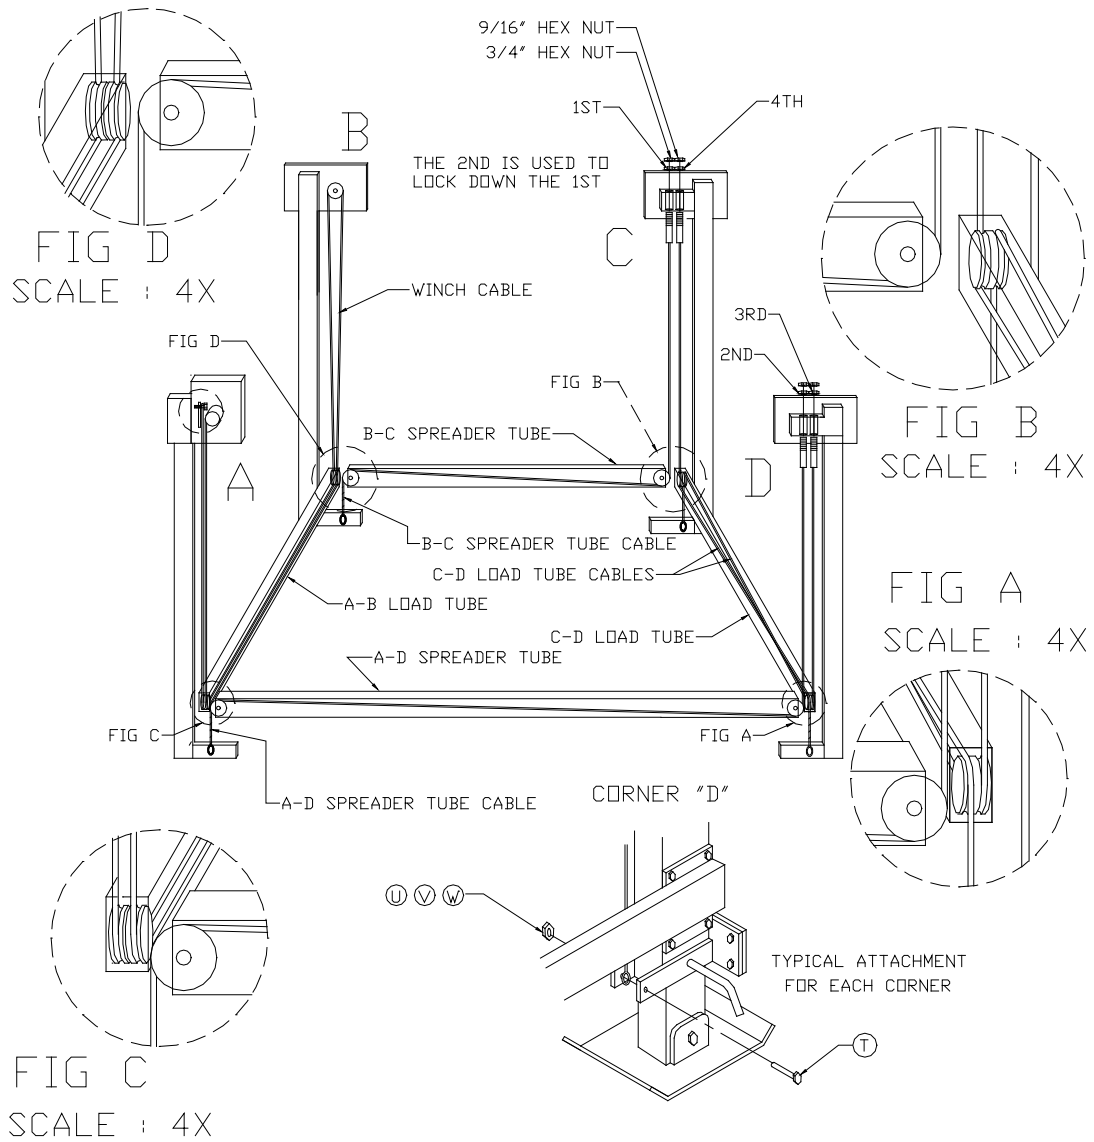

Figure 3-8.
2. Refer to Figure 3-8. The load and spreader tubes are already reeved. Fasten the cable end loops to the bracket provided at the bottom of each of the four vertical legs.
3. Using a 7/8” or 1-1/8” open-end wrench, tighten the cable studs opposite the cable end loops in the following order. The following step numbers correspond to the step numbers shown in Figure 3-8.
1. Refer to Figure 3-8. Reeve looped end of “AB Load Tube “ cable over vertical leg “B” sheave assembly by removing bolt and sheave/bushing assembly from block. Reassemble reeved sheave/bushing assembly back into block and fasten.